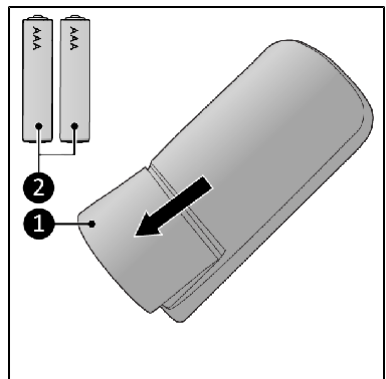

Figure 13
1. Open the battery compartment cover (Fig. 13, Ref. 1).
2. Insert two AAA 1.5 V batteries (Fig. 13, Ref. 2) into the compartment, making sure the polarity matches the markings.